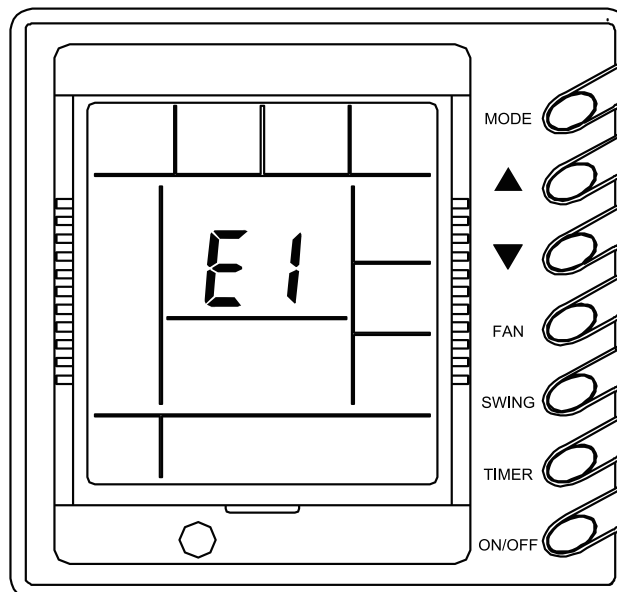

Fig. 23
◆ Error Display (Fig.23)
- When some error happens, the error code will be shown in the environmental temperature display zone. Fig. 23 indicates that the compressor is under high pressure protection.